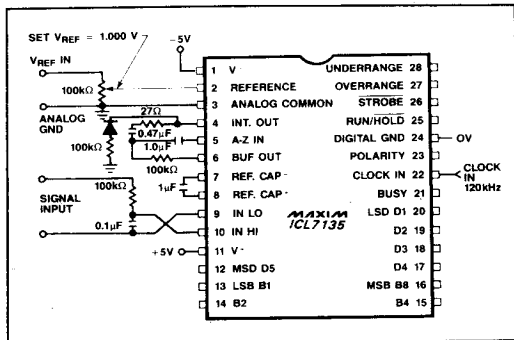

Figure 1. ICL7135 Test Circuit
Note 1: Tested in 4½ digit (20,000 count) circuit shown in Fig. 1, clock frequency 120kHz.
- Note 1:** Tested in 4½ digit (20,000 count) circuit shown in Fig. 1, clock frequency 120kHz.
The ICL7135 is tested for rollover using the circuit of Figure 1, with the 100k Ω resistor and diode in the circuit. The diode is noncritical, and is typically a low cost 1N4148. The resistor value is dependent on many factors including integrator swing, clock frequency, and the amount of rollover error due to "charge suckout" on the reference capacitor. 100k Ω is the optimum value for most circuits and is the value used in testing the ICL7135.